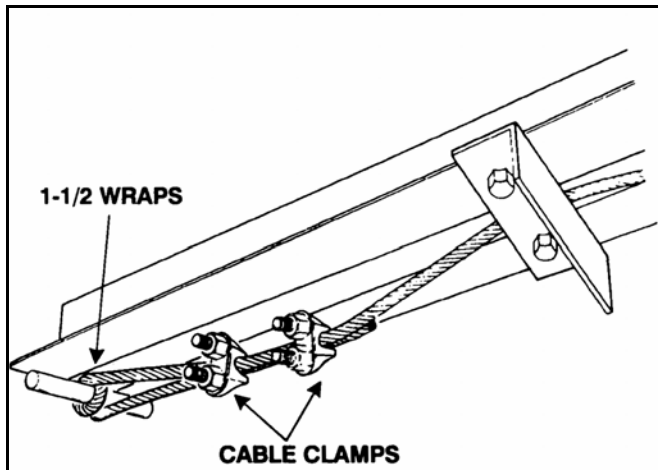

Figure 3.15
**Note:** 36' augers only have a lower angle-iron track stop. On these augers, the cable must be threaded between track stop and auger tube so cable rests on top of the track stop (See Figure 3.15).
5. Wrap cable 1-1/2 times around the cable attach rod and secure with two 1/4" cable clamps. Position cable clamps as shown in Figure 3.15 and 3.16. Tighten clamps securely.